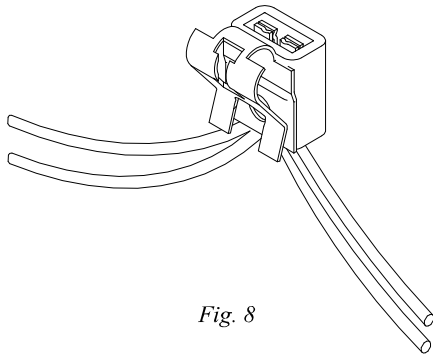

Fig. 8
- d) For halogen light bars verify that the lamps are in the appropriate locations to provide optimum illumination. If they are not, simply slide the socket shown in fig. 8 to the desired location.